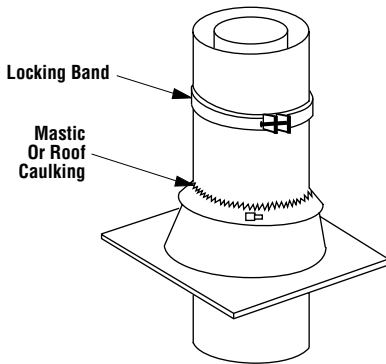

Figure 28
**Step 8.** The standard FireCraft Technologies' FTF8 roof flashing assemblies include a storm collar. Slide the storm collar over outer chimney, rest on flashing spacers and align with top surface of flashing. Insert tab in slot, pull tight and bend tab back over slot. Seal storm collar to outer chimney with roof caulking or mastic around entire circumference of pipe. Also add extra roof caulking to the tab/slot area to seal completely against water penetration (Figure 28). Check all joints very carefully to ensure no water intrusion can take place.